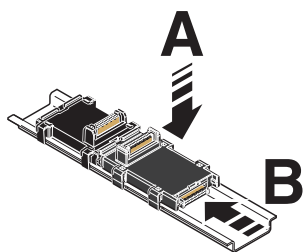

Figure 4-4 Mounting the bus base modules
- First install the bus base module for the controller and then all bus base modules necessary for the Axioline F station on the DIN rail (A in Figure 4-4).
- Push each subsequent bus base module into the connection of the previous bus base module (B in Figure 4-4).